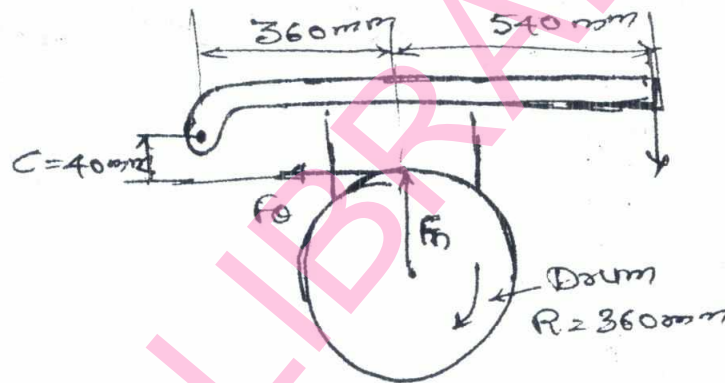

Fig.Q.6(b)
- b. A 360mm radius brake drum contacts a single shoe as shown in Fig.Q.6(b) and sustains a power of 23.5 kW at 1000 rpm. Determine: